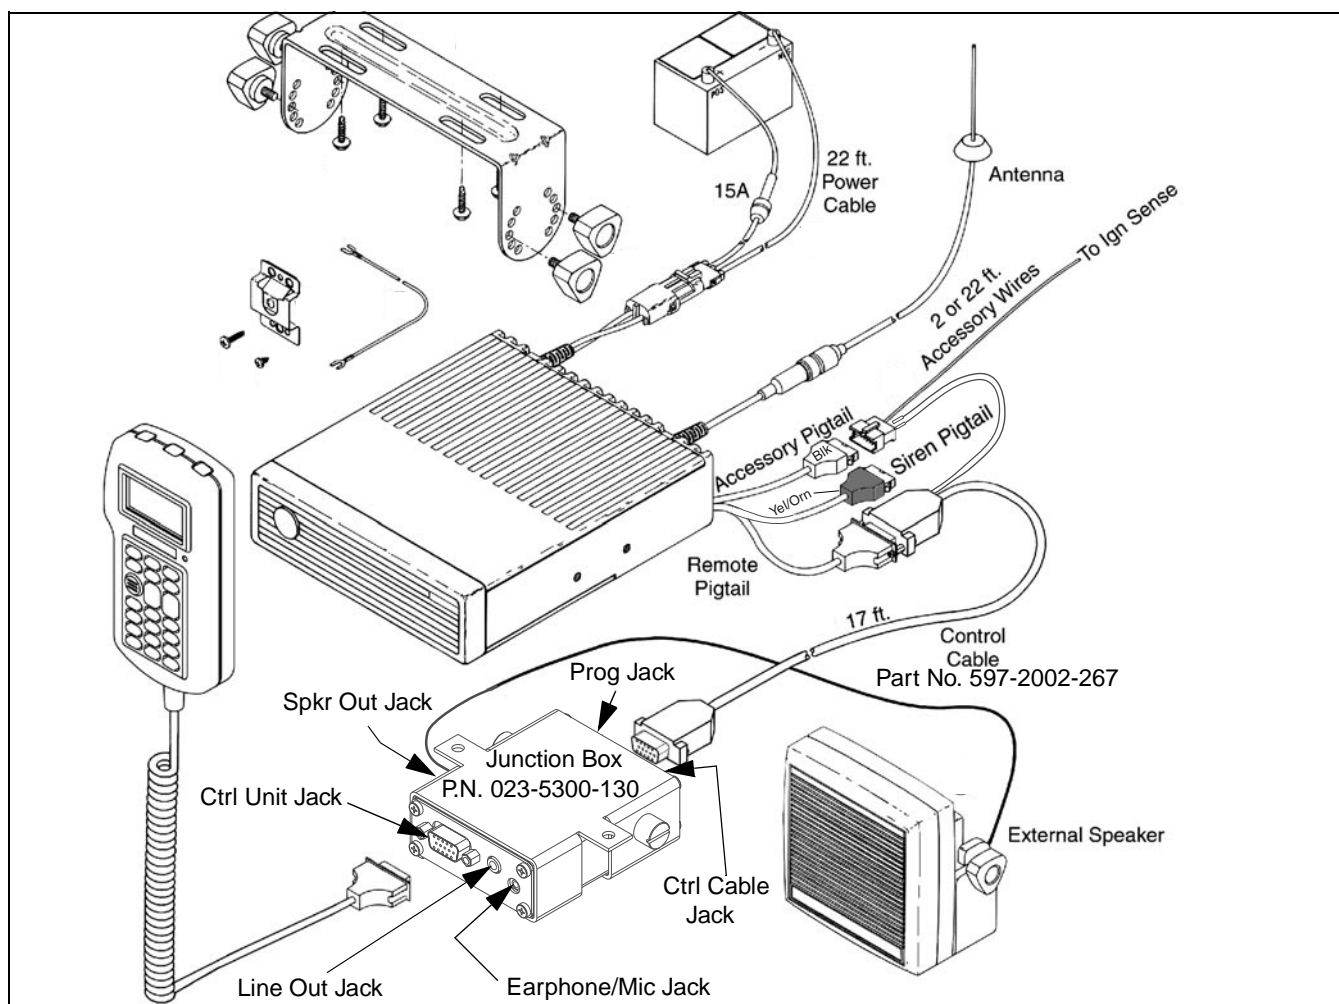

Figure 2-9 HHC Installation Components (Optional Junction Box Used)
on the back of the transceiver or into an optional junction box. This junction box provides the following additional jacks (see Figure 2-9).
Optional Junction Box Used (Figure 2-9)
3. Route the 17-ft. control cable from the transceiver to the junction box as shown in Figure 2-9. Connect it